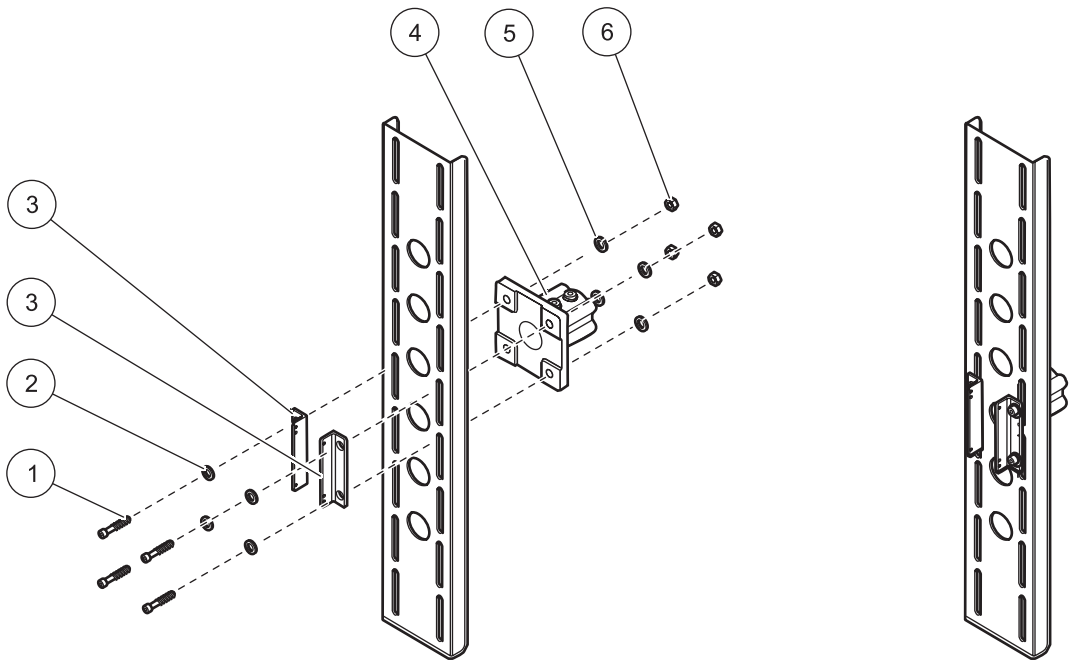

Figure 6 Fitting the base and angles
1. Assemble the base and the two angles using four socket head cap screws (M8 x 40 mm), washers for M10, spring washers for M8 and M8 nuts (Figure 6 on page 6).